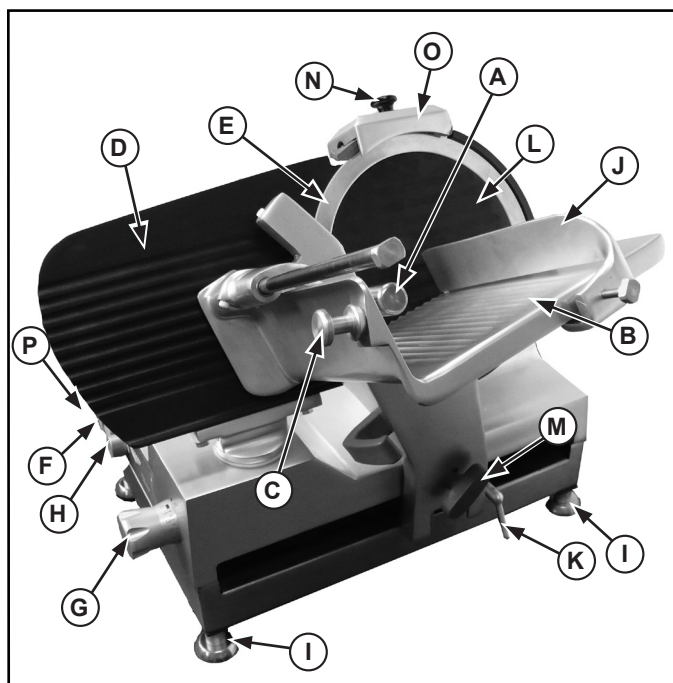

Figure 1. Features and Controls
1. Turn the carriage lever (K) to the down or unlocked position. See Figure 1.
2. Slide the carriage tray (B) to the load/start position (closest to the operator).
3. Lift the product grip (A) and place the food product to be sliced on the carriage tray (B) in contact with the gauge plate (D).
4. Place the product grip (A) either on top or behind product to be sliced and move the food fence (J) according to size of product.
5. Set the desired thickness of slice using the index control (G).
6. Turn the on/off power switch (F) to the "ON" position.
7. Using the product carriage handle (C) push the product tray (B) back and forth to slice the food.
8. When finished slicing turn the on/off power switch (F) to the "OFF" position.
9. Set the thickness to "0" using the index control (G).
1. Turn the carriage lever (K) to the horizontal or locked position. See Figure 1.
2. Slide the product tray (B) to the load/start position (closest to the operator).
3. Lift the product grip (A) and place food product to be sliced on the carriage tray (B) in contact with the gauge plate (D).
4. Place product grip (A) either on top or behind product to be sliced and move food fence (J) according to size of product.
6. Turn on the speed control knob (H) setting it to the lower speed position.
7. Turn the on/off power switch (F) to the "ON" position.
8. Adjust the speed control knob (H) to the desired speed.
9. When finished slicing, turn the on/off power switch (F) to the "OFF" position.
10. Turn the on the speed control knob (H) setting it to the lower speed position.
11. Turn the index control (G) to the "0" position.
19. Install the knife cover knob and secure the knife cover. See Figure 1.